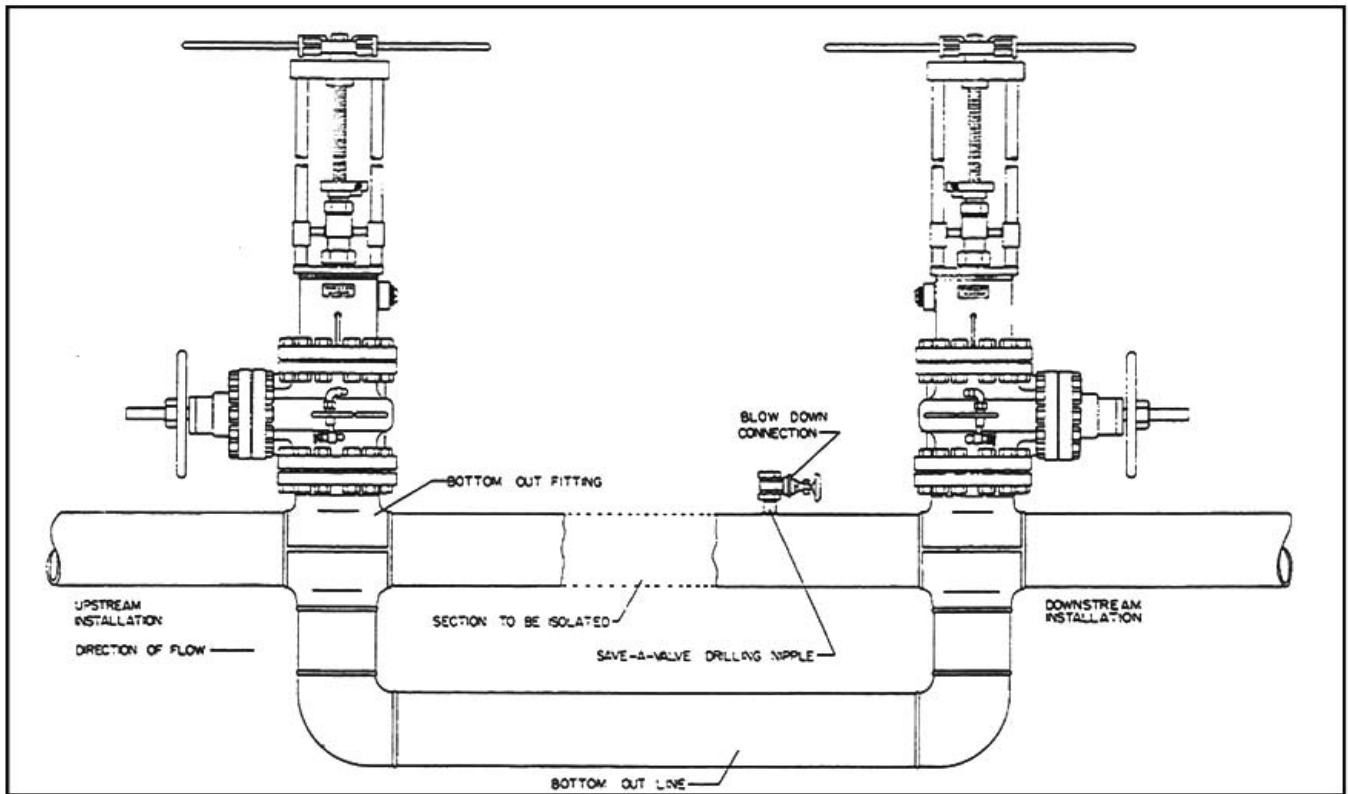

FIGURE 14
4. See **Figure 14** when using two stopping machines to isolate a section of pipe and maintain service downstream through bottom-out line.
3. When using bottom-out fittings and bottom-out line—the by-pass line is the bottom-out line and is already in operation. Figure 14.